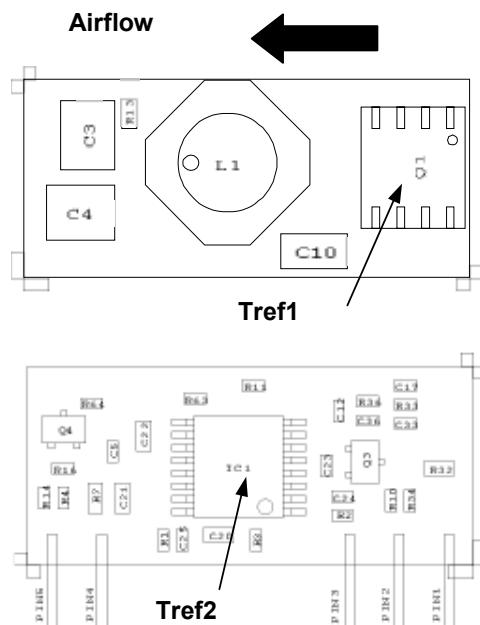
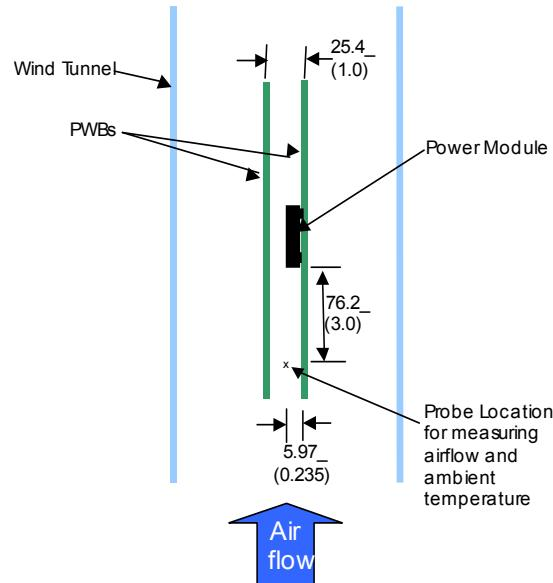

Figure 31. Tref Temperature measurement location.
Figure 32. Thermal Test Set-up.
To provide over temperature protection in a fault condition, the unit relies upon the thermal protection feature of the controller IC. The unit will shutdown if the thermal reference point  $T_{ref2}$ , (see Figure 31) exceeds  $140^{\circ}C$  (typical), but the thermal shutdown is not intended as a guarantee that the unit will survive temperatures beyond its rating. The module will automatically restart after it cools down.
Considerations include ambient temperature, airflow, module power dissipation, and the need for increased reliability. A reduction in the operating temperature of the module will result in an increase in reliability. The thermal data presented here is based on physical measurements taken in a wind tunnel. The test set-up is shown in Figure 32. Note that the airflow is parallel to the long axis of the module as shown in figure 31. The derating data applies to airflow in either direction of the module's long axis.
The thermal reference point,  $T_{ref}$  used in the specifications is shown in Figure 32. For reliable operation this temperature should not exceed 115°C.